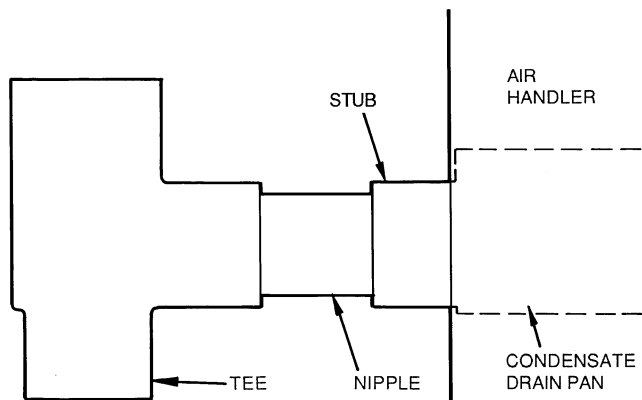

Fig. 2 — Install Nipple and Tee
1. Cement 1-in. PVC pipe nipple (supplied) into the drain pan pipe stub. See Fig. 2.